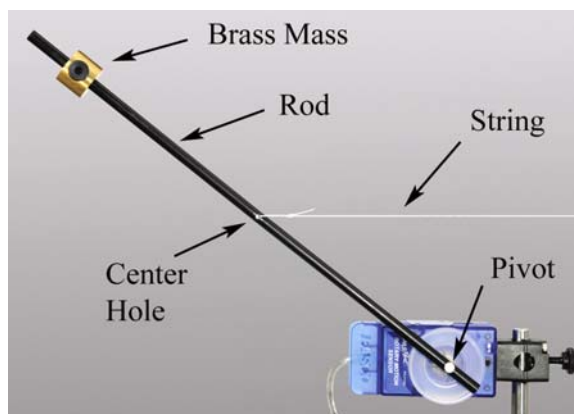

Figure 3: The rod is in static equilibrium.
- Cut a length of string about 1 m long. Tie one end of the string to the center hole in the rod as shown in Figure 3, and tie a loop on the other end.